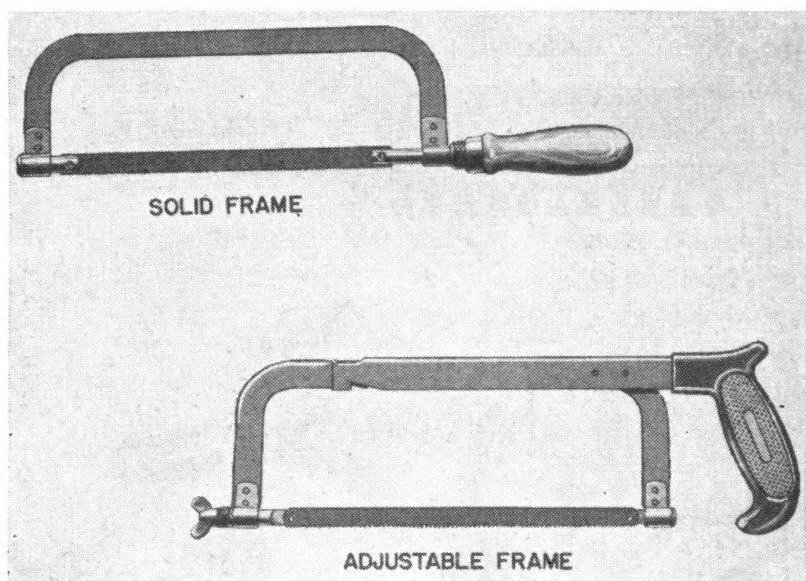

FIGURE 25.—Hacksaws.
(4) Never use a file as a hammer; this will not only injure the file, but it may throw steel particles into the eyes.
8. Hacksaws.—*a. General.*—Hacksaws are saws used for cutting metal, much as a carpenter's saw cuts wood. Common hand hacksaws have either adjustable frames or solid frames, as shown in figure 25. Hacksaw blades of various types are inserted in these frames for different kinds of work. Adjustable frames can be changed to hold blades from 8 to 16 inches long; solid frames, although more rigid, will take only the length blade for which they are made. This length